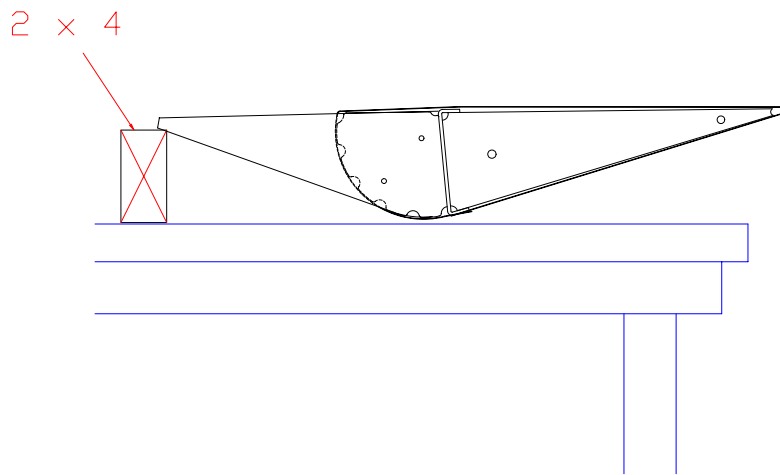

Figure 7.6.5
- 6) Put a 2 x 4 between the Leading Edge of the spade and the bench. Put a weight on the bottom surface of the Spade. Figure 7.6.5.